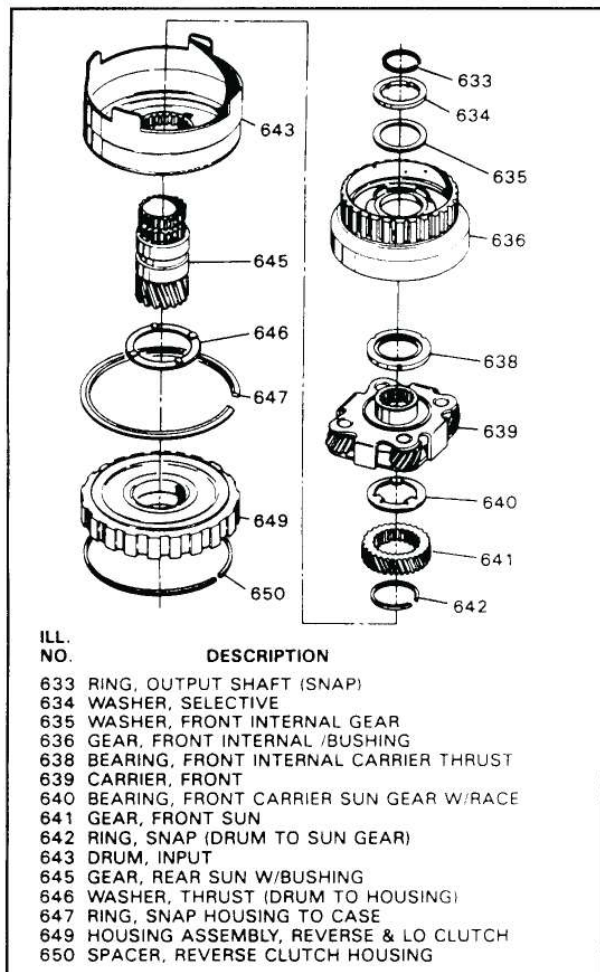

Figure 51
1. Remove the output shaft snap ring using a pair of snap ring pliers. Use care not to over expand the snap ring (See Figure 51).
2. Remove the front planetary ring gear with the selective washer and thrust washer, as shown in Figure 51.
3. Remove the front planetary carrier with the thrust bearing as shown in Figure 51.
4. Remove the thrust bearing assembly and the input sun gear as shown in Figure 51.
5. Remove the sun gear shell and the rear sun gear, as shown in Figure 51. Thrust washer (646) may be stuck to back of sun gear shell (See Figure 51).
7. Remove the snap ring from transmission case that retains the Lo/Reverse clutch housing (Figure 51).